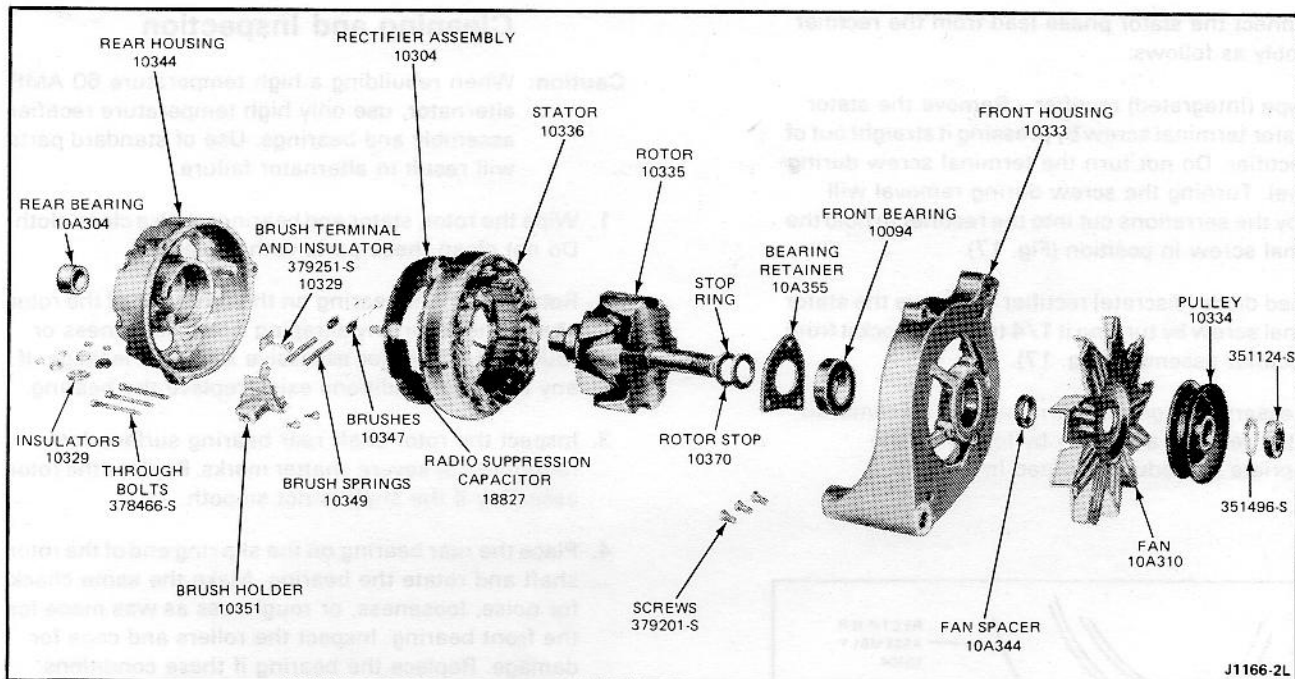

Fig. 14 - Disassembled Rear Terminal Alternator
5. Remove the nuts, washers and insulators from the terminals on the back of the rear housing. Note the color and location of the insulators for assembly reference (Fig. 14).